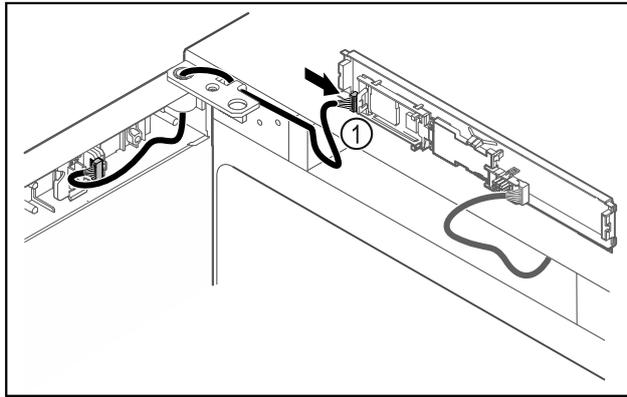

Fig. 40
- ▶ Connect the plug Fig. 40 (1) to the circuit board.